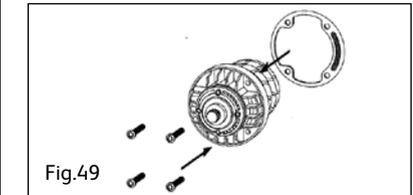

Fig.49
9. Push the four cartridge fixing screws through the face of the cartridge and attach the gasket to the screws ensuring that it is correctly positioned (Fig.49).